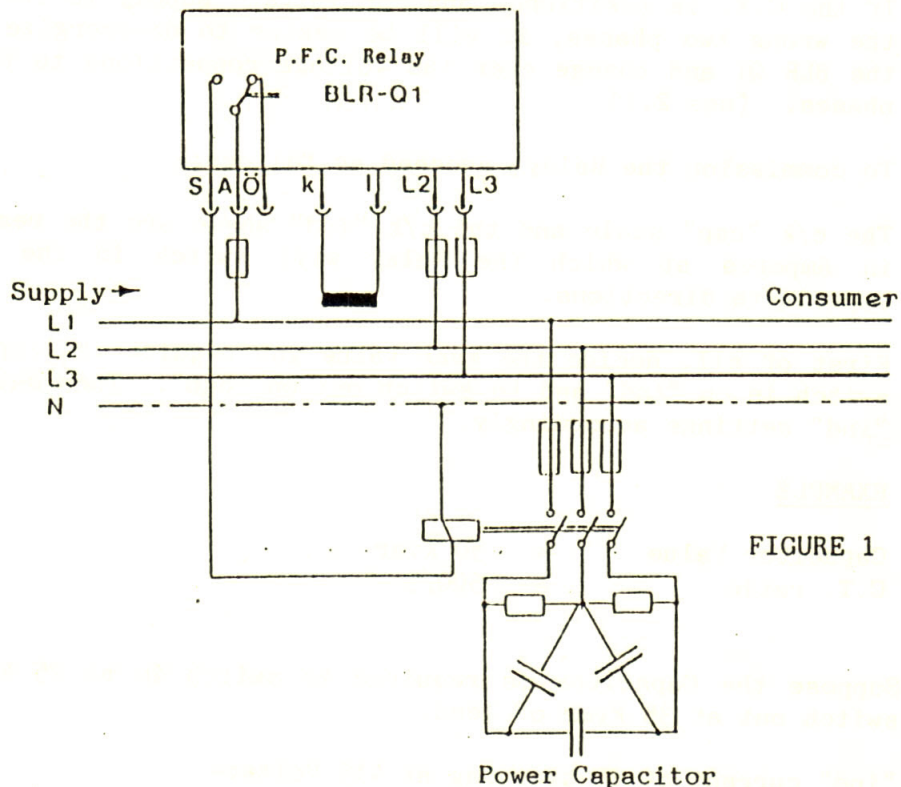

FIGURE 1
- 1) Connect the Relay in accordance with Figure 1 below:-